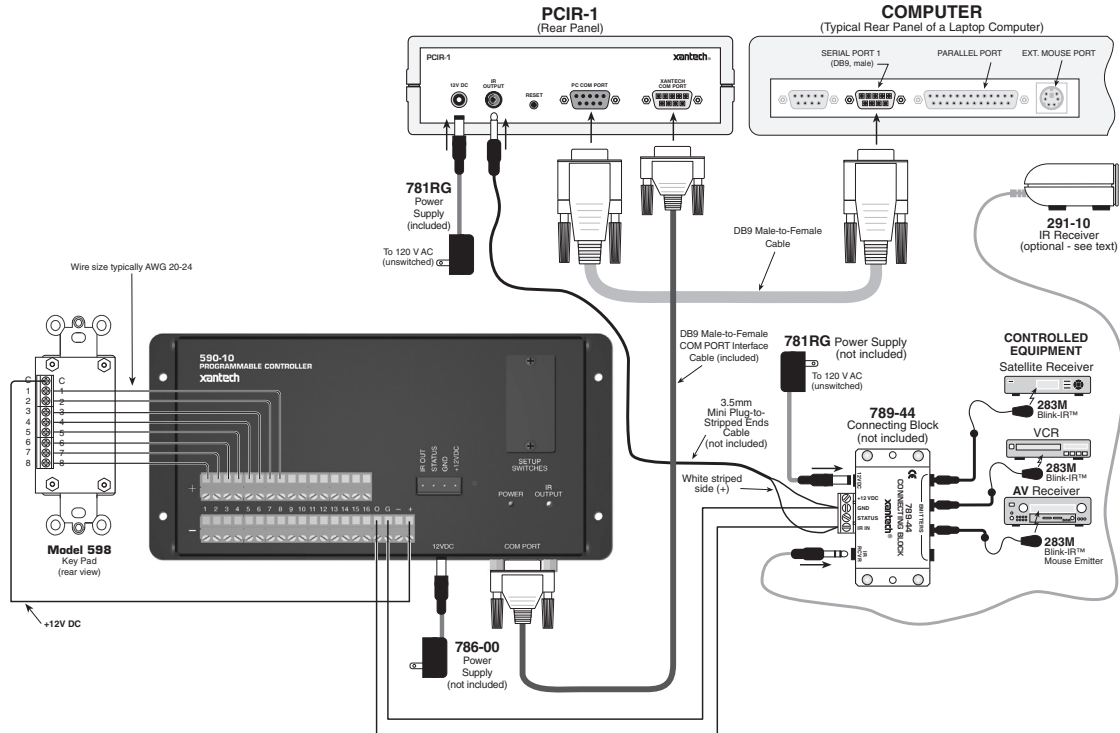

Figure 1 – Hardware Connections
1. Connect all of the hardware together using the cables provided. Refer to **Figure 1**.
3. **Figure 1** also shows a 291-10 IR Receiver as an optional item. You could use this to test IR commands on the controlled equipment through the IR system before they are learned and programmed by Dragon Drop-IR, if programming IR.